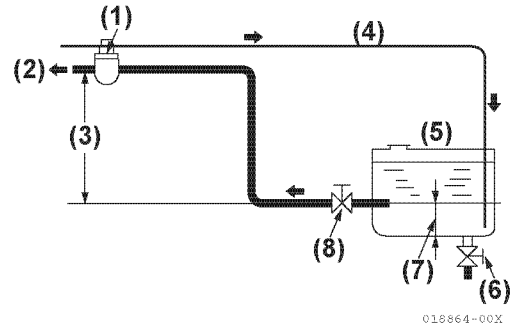

Figure 3-39
Shown is a typical installation of a boat fuel system. Fuel supply (**Figure 3-39, (2)**) and return (**Figure 3-39, (4)**) lines connect to fittings at the engine.
Install a drain cock (**Figure 3-39, (6)**) at the bottom of the fuel tank to remove water and contaminants.